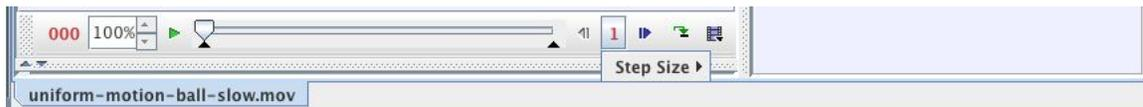

Figure 5: Change the step size in order to skip frames.
6. Since there are 300 frames of video recorded per second, the time interval between frames is quite small. As a result, we can skip frames between marking the ball and thus take fewer data points. Click on the **Step Size** button, as shown in Figure 5 and change it to **5**.